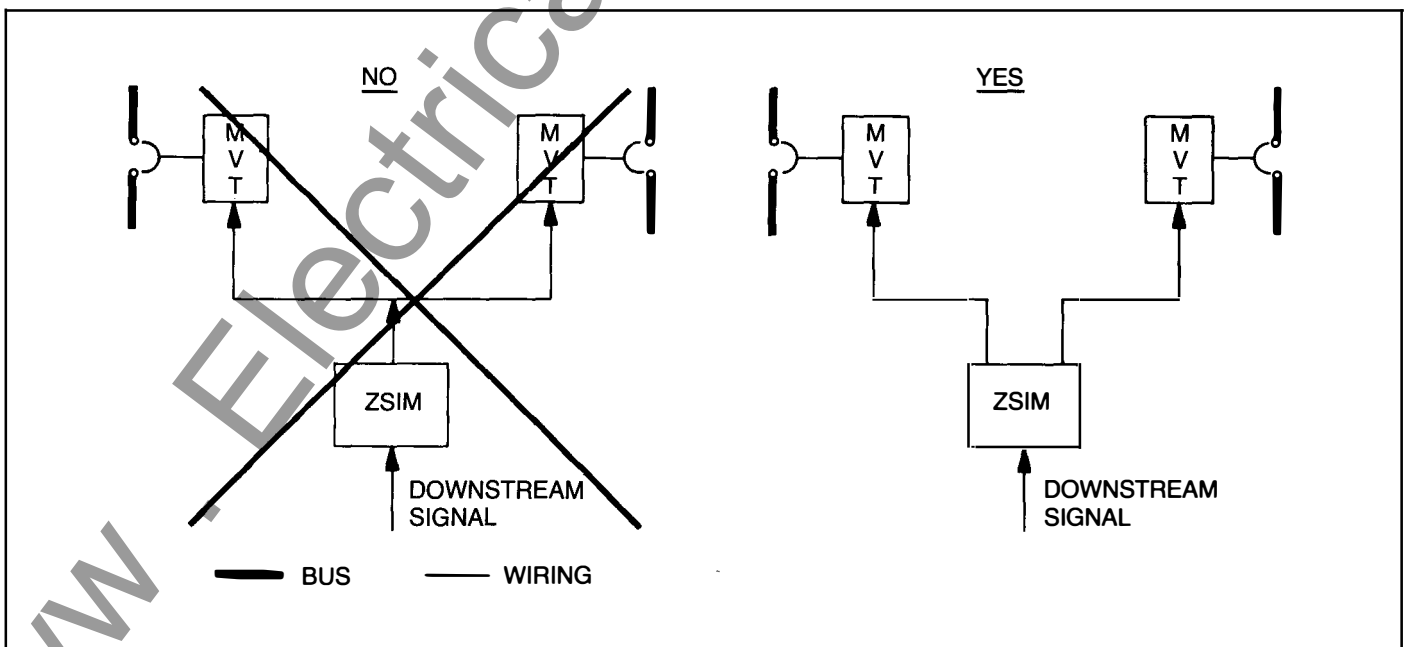

Figure 6. Do not parallel circuit breaker zone selective interlock "inputs."
2. NEVER parallel the zone selective interlock "INPUT" connections of breakers. Upstream connections must ALWAYS be terminated in the Zone Selective Interlock "INPUT" of only one programmer. See Figure 6.